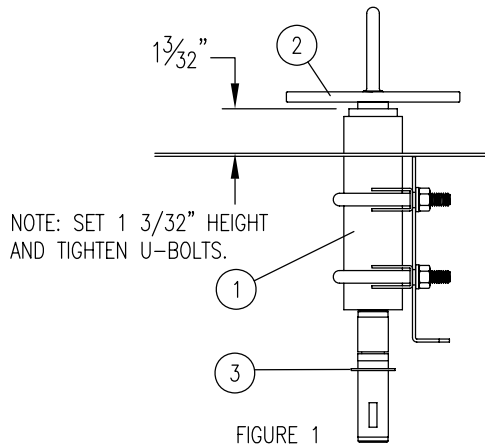

FIGURE 1
2. INSTALL THE NEW TABLE DRIVE HUB (1) IN THE SHELL U-BOLTS. ADJUST THE HEIGHT AS SHOWN IN FIGURE 1.
3. INSTALL THE NEW TABLE DRIVE SPINDLE ASSEMBLY (2) IN THE NEW HUB AND INSTALL THE SNAP RING (3) ON THE SHAFT BELOW THE GROOVE AS SHOWN IN FIGURES 1 AND 2.